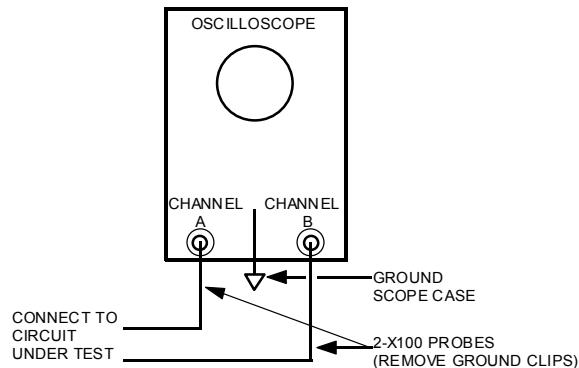

Figure 1: Oscilloscope Connections
3. When using an oscilloscope to make measurements in the power circuits, use the connections shown in Figure 1 and the procedures described in step 4. Failure to follow this procedure could result in the case of the oscilloscope being at line potential. Only qualified personnel should be allowed to use the oscilloscope and other test equipment.
4. Referring to Figure 1 set the oscilloscope to add channels A & B, and invert channel B. Before making measurements, connect both probes together and set the "zero" line.